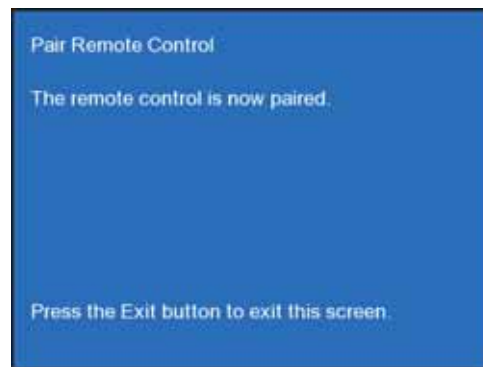

Figure 3-3 Remote is Paired
2. Press the **Pair** button on the R100 Remote Control and then the **Enter** button. Once pairing is successful, the screen shown in Figure 3-3 appears on the OSD. **NOTE:** *If the **Pair** button is accidentally pressed on the remote when the array has been paired, press it again to toggle pairing mode OFF.*